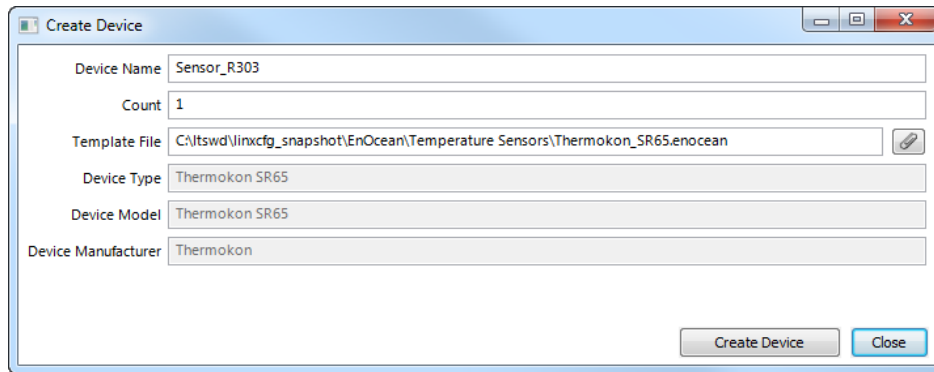

Figure 181: EnOcean device creation dialog
3. In the **Create Device** dialog enter a Device Name and a Count of devices to be created as shown in Figure 181.